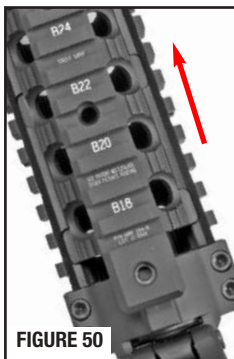

FIGURE 50
- Line up “teeth” and lift bottom rail out of assembly (FIGURES 50 and 51).